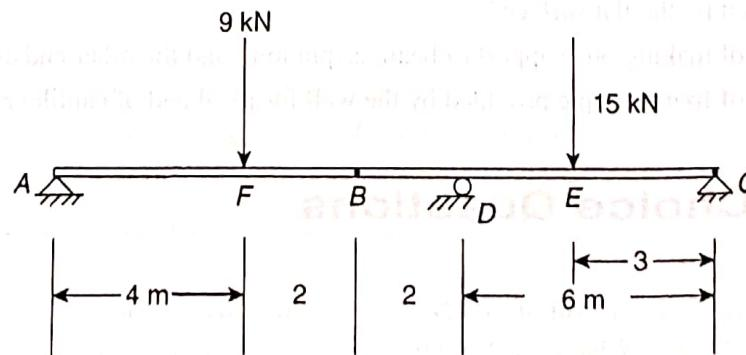

Figure 7.60
1. A 6-m-long beam *AB* and an 8-m-long beam *BC* are hinged at end *B*. Loads on the beam are shown in Fig. 7.60. Draw *BM* diagram of beams *AB* and *BC*.